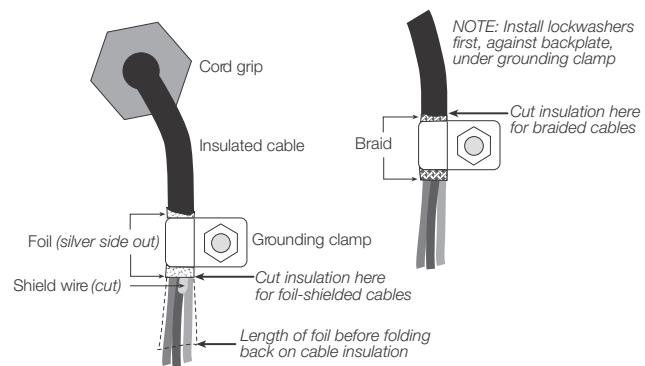

Figure 2-2. Grounding Clamp Attachment for Foil-Shielded and Braided Cabling
- For cables with foil shielding, strip insulation and foil from the cable half an inch (15 mm) past the grounding clamp (see Figure 2-2). Fold the foil shield back on the cable where the cable passes through the clamp. Ensure silver (conductive) side of foil is turned outward for contact with the grounding clamp.
- For cables with braided shielding, strip cable insulation and braided shield from a point just past the grounding clamp. Strip another half inch (15 mm) of insulation *only* to expose the braid where the cable passes through the clamp (see Figure 2-2).